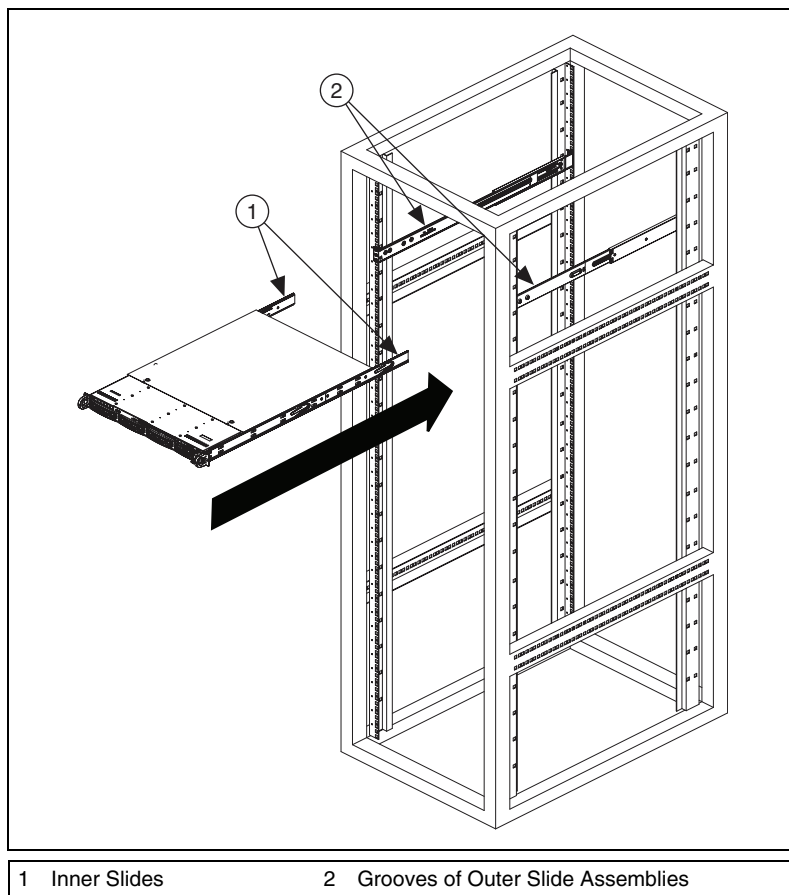

Figure 2-4. Installing Inner Slides into Outer Slides
1. Push the inner slides, attached to the chassis, into the grooves of the outer slide assemblies installed in the rack, as shown in Figure 2-4.